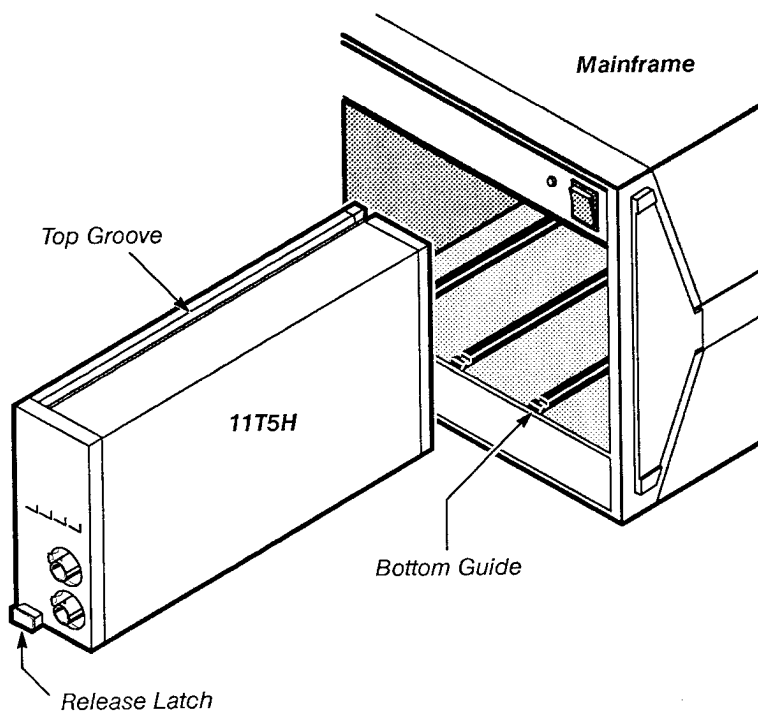

Figure 1-3 — Installing and Removing the 11T5H
- Step 2: Pull the release latch (see Fig. 1-3) to disengage the 11T5H from the mainframe.